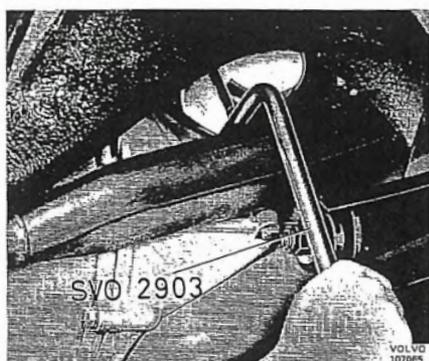

Fig. 2-51. Removing oil filter
1. Remove the old filter with the help of chain tongs, see Fig. 2-51.